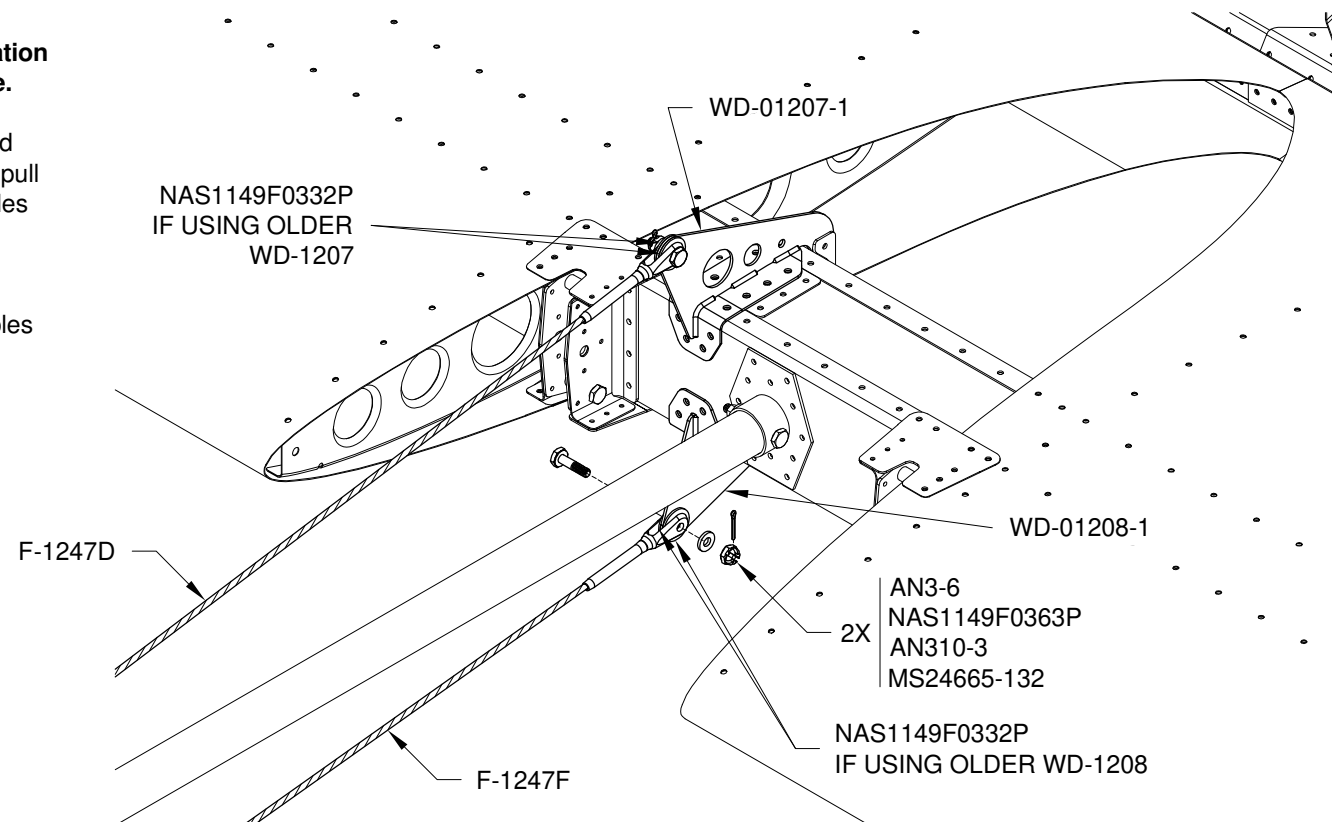

FIGURE 1: CONNECTING THE STABILATOR CABLES
Step 6: Attach the links to the rudder cables as shown in Figure 3. Rotate the arms of the WD-01206-1 so that the hole in the arms aligns with the bolt insertion hole in the F-01217-L & -R (see Figure 1), then attach the links to the arms.
Secure the ends of the stabilator cables to the WD-01207-1 and WD-01208-1 Stabilator Horns using the hardware called out in Figure 1.